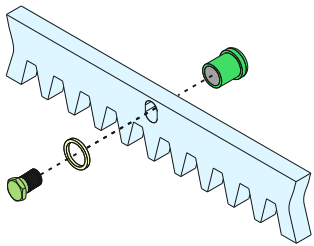

Fig. 10
5.2. Fix the support pawls on each gear rack element, by the use of the special lock screws; make sure to put them in the upper part of the hole - Fig. 10;